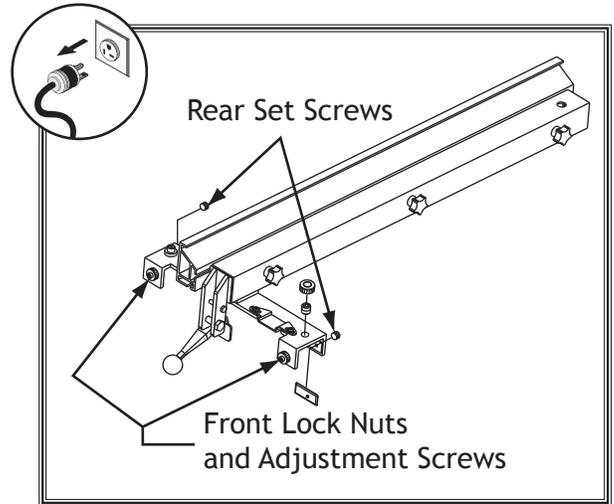

Figure 118. Location of screws used to adjust fence parallelism and clamping pressure.
3. Unscrew front lock nuts and adjustment screws shown in **Figure 118** until they are barely threaded into fence flange.
4. Back out rear set screws until they are just threaded into fence flange (see **Figure 118**).
3. Turn each rear set screw (see **Figure 118** on **Page 74**) in $\frac{1}{6}$ th of a turn.
8. Loosen both front lock nuts (see **Figure 118** on **Page 74**). Tighten adjustment screws so they just touch fence tube, back off screws $\frac{1}{2}$ turn, then tighten lock nuts.